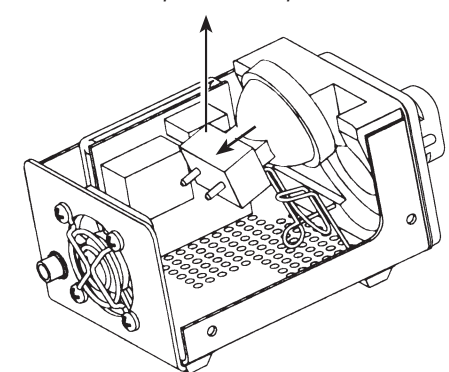

Figure 4. Lamp Removal
3. Disconnect the lamp connector and remove the lamp by pulling it back and up against the retaining spring (see Figure 4).